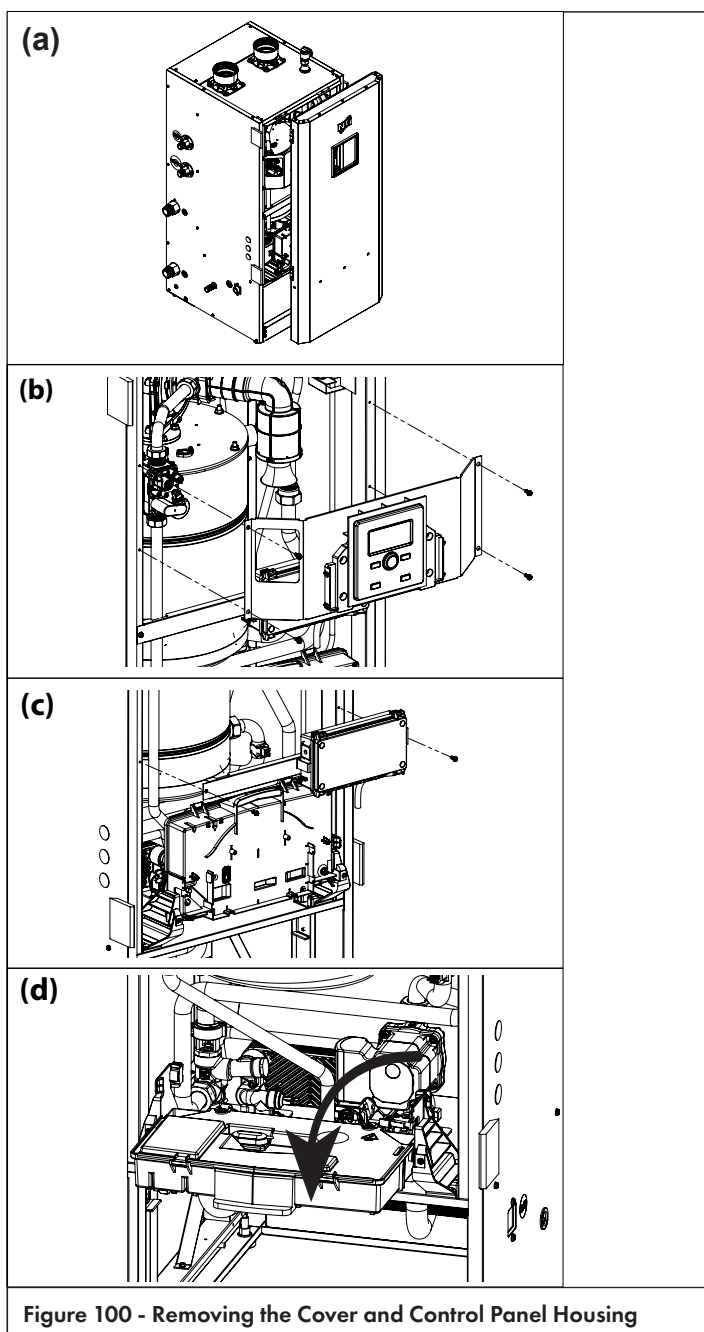

Figure 100 - Removing the Cover and Control Panel Housing
See Figure 100 to access the interior of the boiler:
3. Remove the front panel as shown in Figure 100.